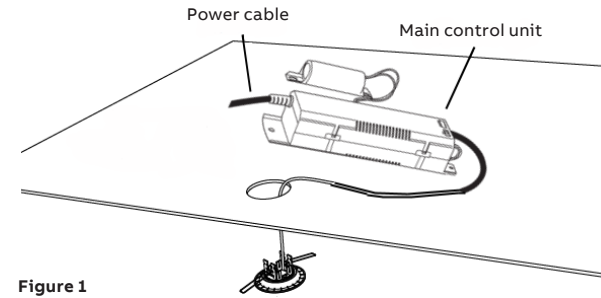

Figure 1
- Connect the mains wiring brown to (active), blue to (neutral), white to (DALI +) and black to (DALI -), see figure 1.